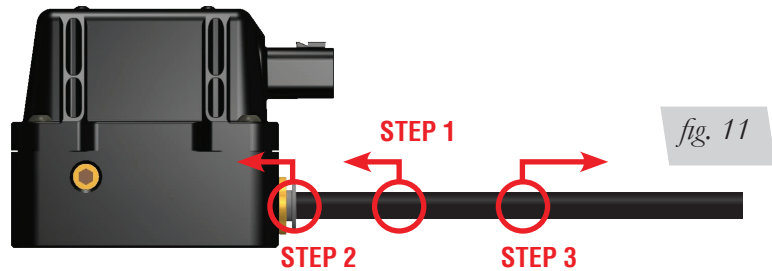

fig. 11
*To release the air line from the connection (fig. 11), first release all air from the system. Push on the line (step 1), depressing the ring towards the fitting (step 2), and then pull the hose out of the fitting (step 3).*